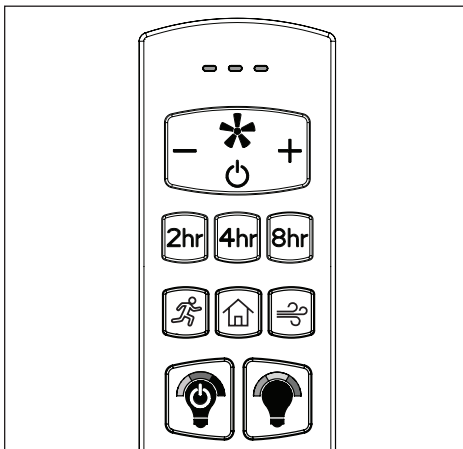

Figure 6.1
1. To operate the fan using the remote, press and release the following buttons (Figure 6.1):
Remote does not work.	<ol style="list-style-type: none"> <li>1. Power surge may have cleared the memory and remote needs to be resynced to the receiver. Syncing instructions: Turn off the power at the breaker box for at least 10 seconds and then turn the power back on. Within 30 seconds, press and hold the "LEARN" button (Figure 6.1) on the back of the remote for 5 seconds. The fan will turn on at high speed and light will blink twice and stay on, signaling a successful synchronization.</li> <li>2. Insert new CR2032 batteries in battery compartment of the wall control.</li> <li>3. If there are several remote fans in proximity, turn the power off to those fans and re-sync the fan.</li> </ol>